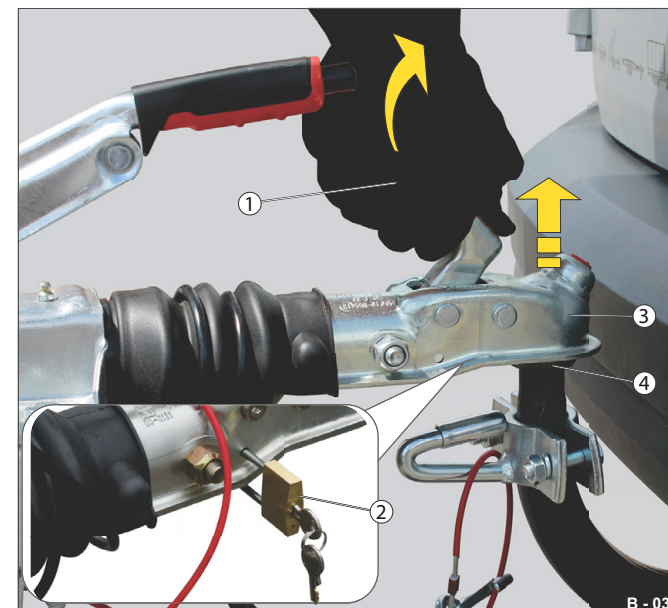

Fig. 13 Example: uncouple braked trailer
- Unlock the handle (Fig. 13 /1) in the barrier (Fig. 13 /2).
- Lower the support wheel to lift the spherical cup (Fig. 13 /3) off the ball head coupling (Fig. 13 /4).